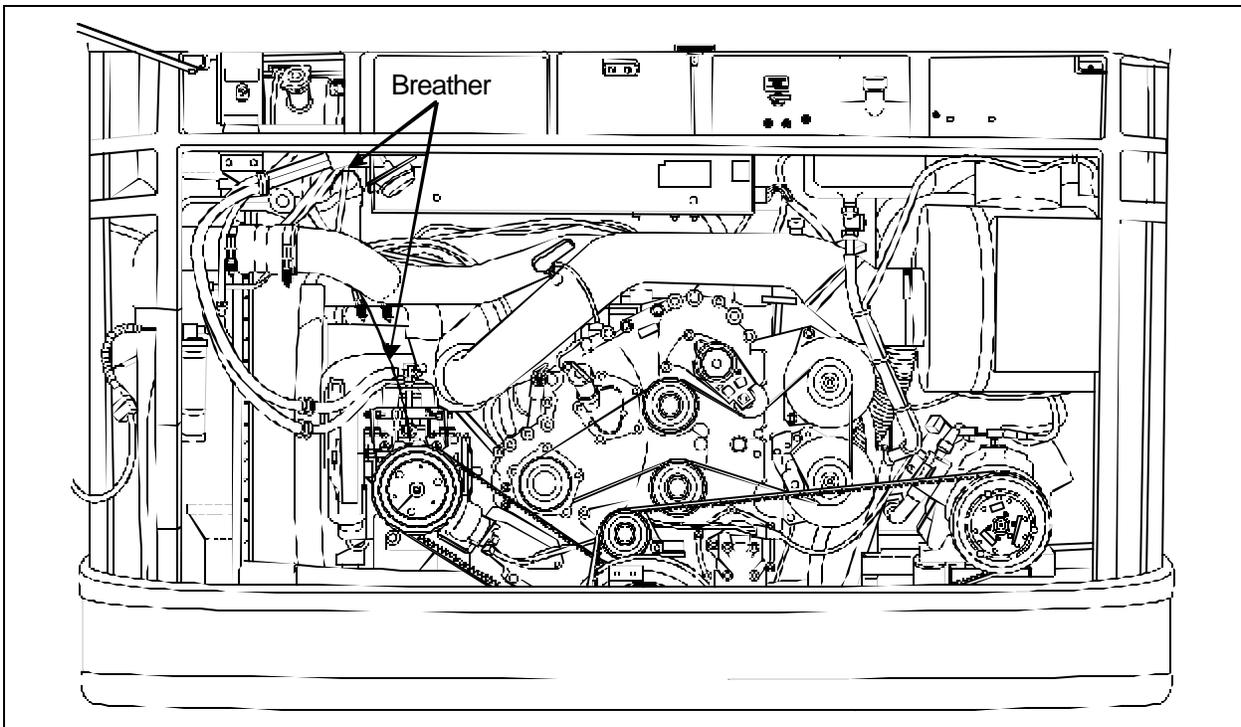

FIGURE 2: TYPICAL ENGINE COMPARTMENT WITH BREATHER TUBE INSTALLED ON FAN GEARBOX
5. Using the cable ties included, attach the other end of the hose, so it ends up facing downwards, to a sump tank hose. Leave some slack to allow for movement of fan gearbox. Refer to figure 2 for installation diagram.